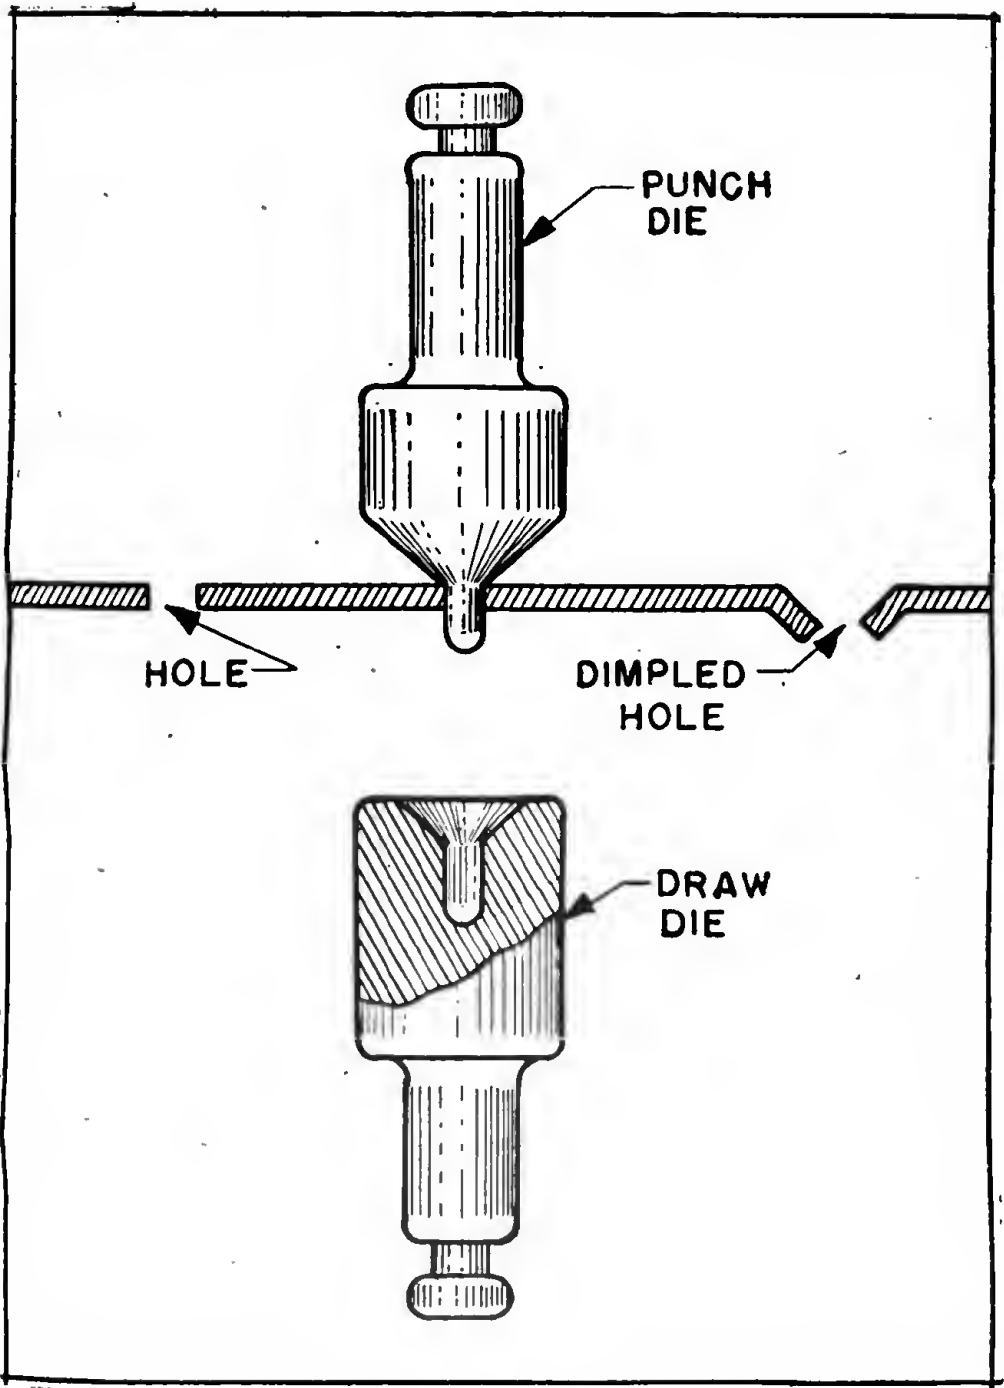
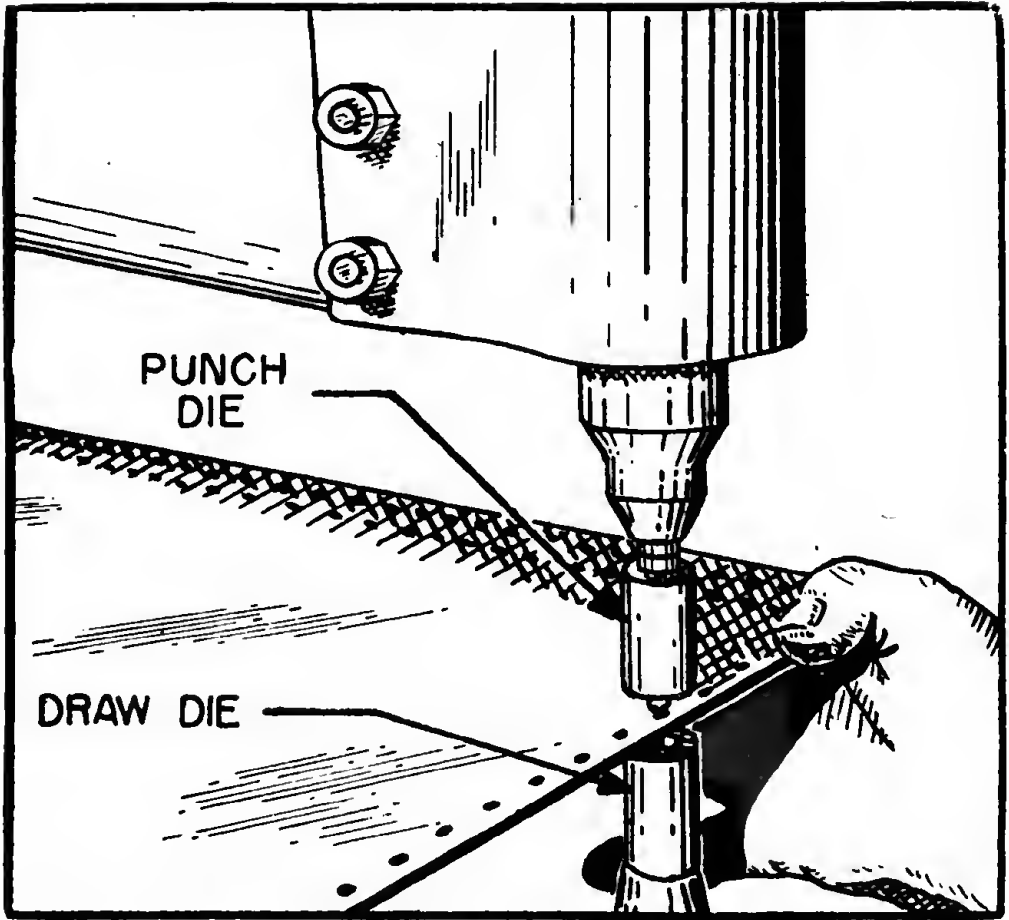
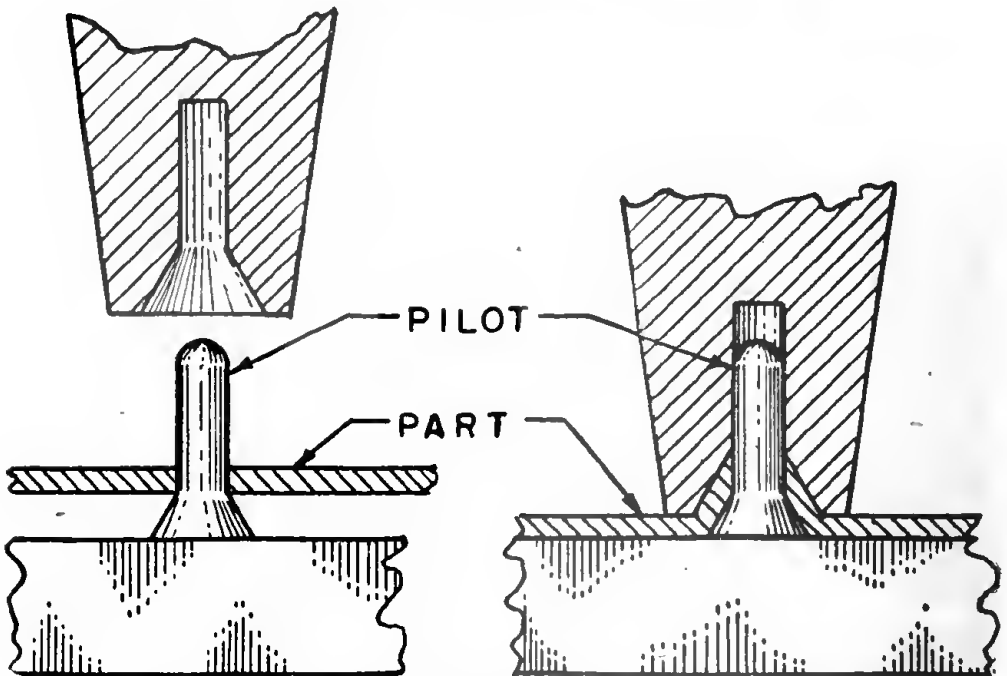

Figure 147. Dimpling tools.
Figure 148. Dimpling sheet metal with a dimpling machine.
Figure 149. Dimpling sheet metal with a pneumatic hammer.
m. DIMPLING TOOLS. These tools are used to prepare sheet metal for countersunk rivets. A set usually consists of a punch die and a draw die. (See fig. 147.) Dimpling may be accomplished by hand or power tools. In using dimpling tools, care should be taken to use the tool with the correct angle.
(2) *Dimpling with power tools.* Power tools, such as pneumatic hammers and squeezers and dimpling machines, may be used for dimpling. Dies, such as those shown in figure 147, are mounted in the squeezer or dimpling machine as shown in figure 148. Dimpling with pneumatic hammer is accomplished as shown in figure 149.